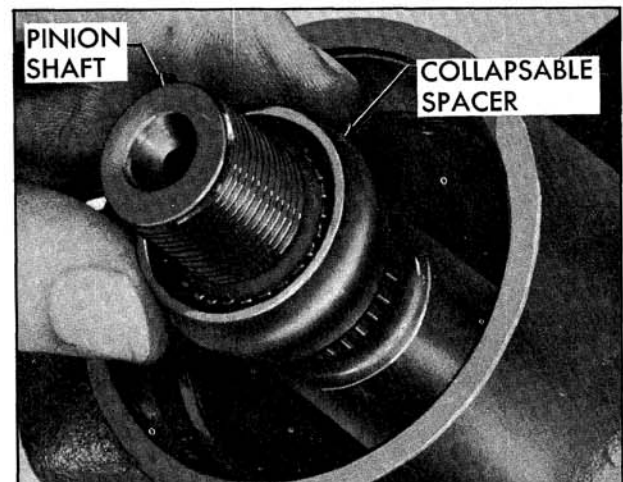

Fig. 10-33 Installing Collapsible Spacer
1. Position pinion assembly in carrier and install collapsible spacer as shown in Fig. 10-33.